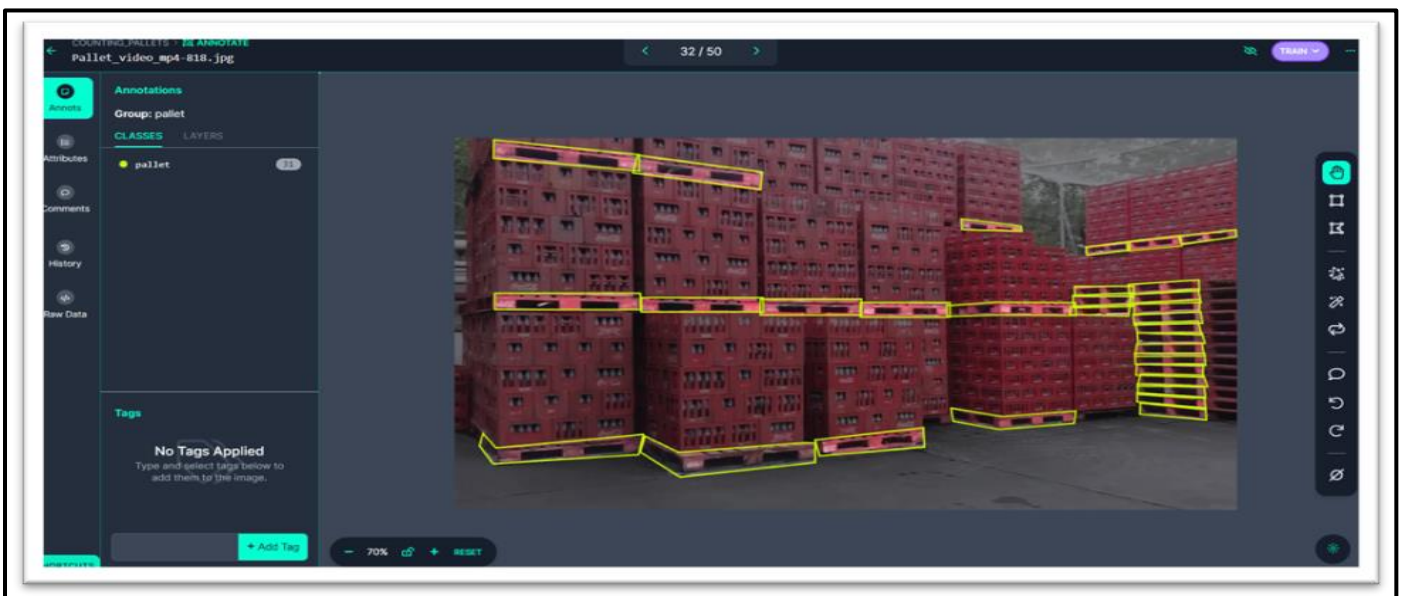

Fig 3 Pallet Annotation in Roboflow: An Overview of the Annotation Process (Source: Roboflow )
- ✓ The images are then uploaded to Roboflow to perform annotation. Bounding Boxes are drawn around the pallets in the images [Fig.3]